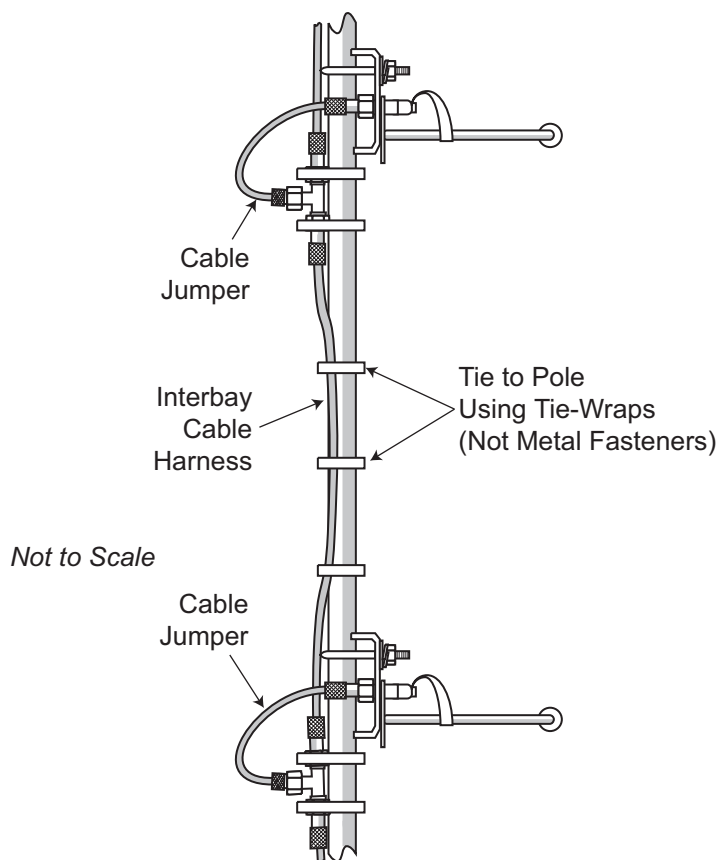

Figure 5. Wrapping and securing the interbay cables
- b. The rest of the harness should naturally fall into place. Using cable jumpers, attach the interbay cable harness to the remaining radiators, as shown in Figure 5 on page 5.